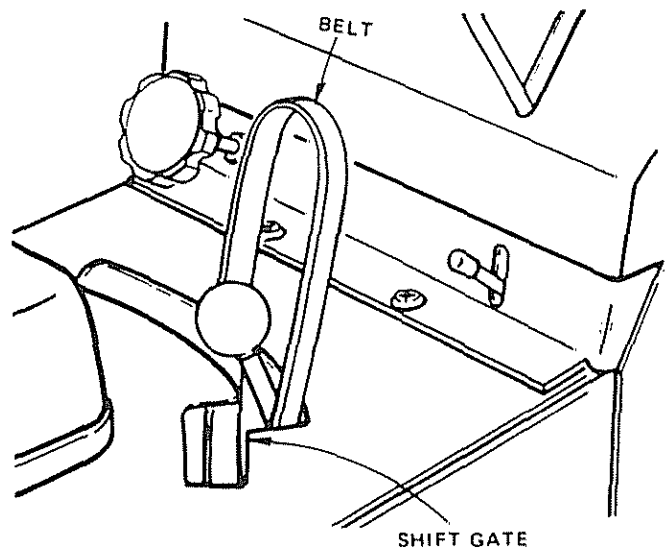

FIGURE 23
- h. Pull belt out through shift gate to remove from tractor (Fig. 23).